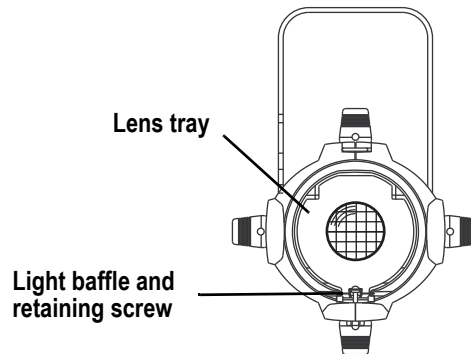

Figure 11
- Step 1: Loosen the screw at the front of the baffle. See Figure 11.